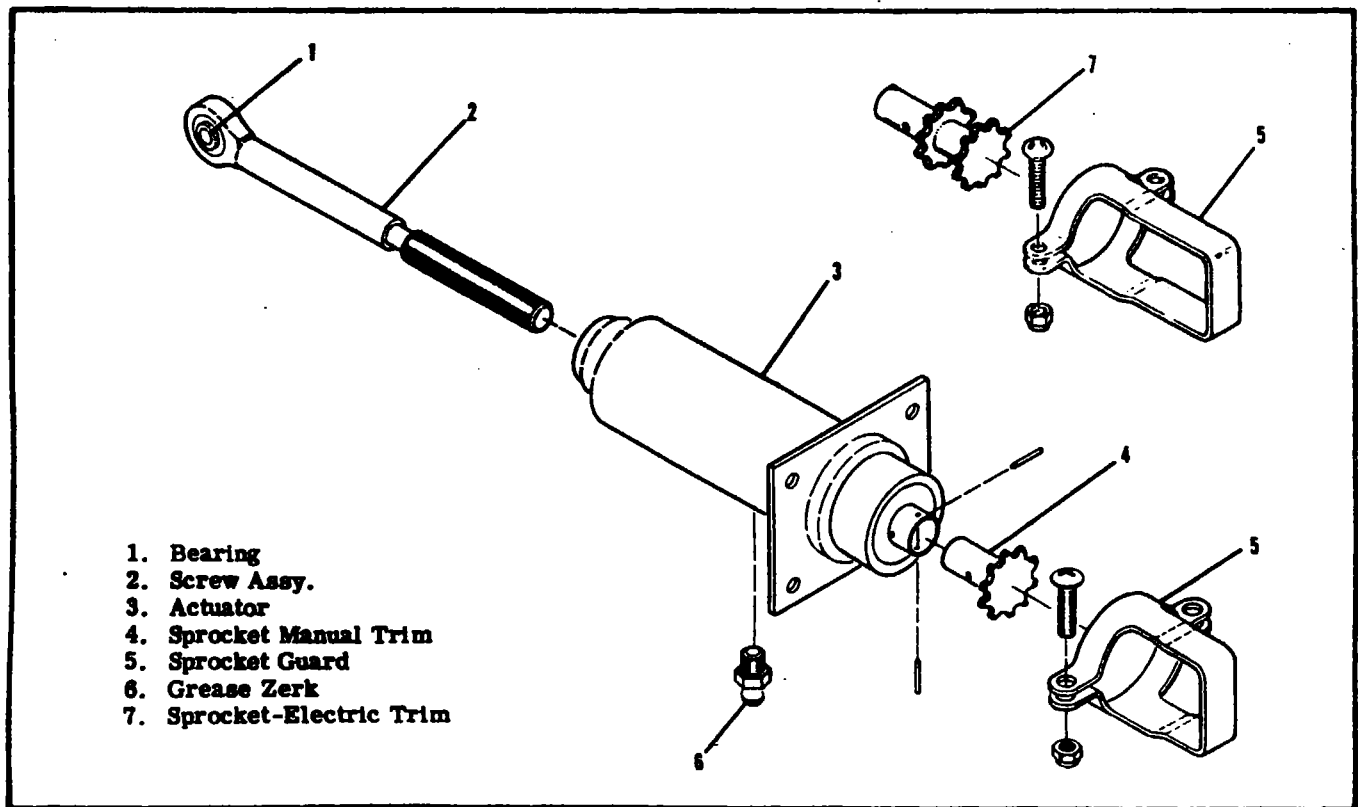

Figure 9-3. Elevator Trim Tab Actuator Assembly
- b. Remove cover (29) below drive assembly (6).
- c. Remove cover (28) with voltage regulator attached and carefully disconnect wiring at connectors.
- d. Remove sprocket guard (Index 5, figure 9-3) from trim tab actuator (3).